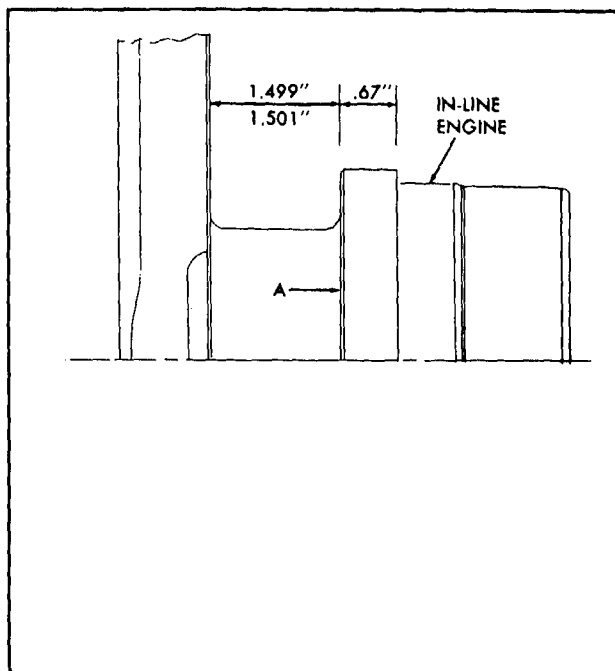

Fig. 10 - Standard Dimensions at Crankshaft Thrust Surfaces--In-Line Engines
6. If the thrust surfaces of the crankshaft (Fig. 10) are worn or grooved excessively, they must be reground and polished. Care must be taken to leave a .130" to .160" radius on the In-line crankshaft
NOTE: If the crankshaft thrust surfaces were reground, it may be necessary to install oversize thrust washers on one or both sides of the rear main journal. Refer to Fig. 10 and Table 2.